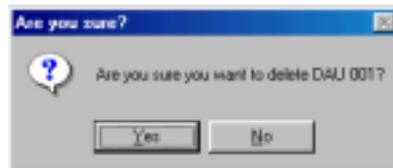

Figure 7.7 Deletion Confirmation Window
4. A message will appear to verify deletion of selected Machine. Click the Yes button to proceed with deletion of machine or No to cancel (Figure 7.7).